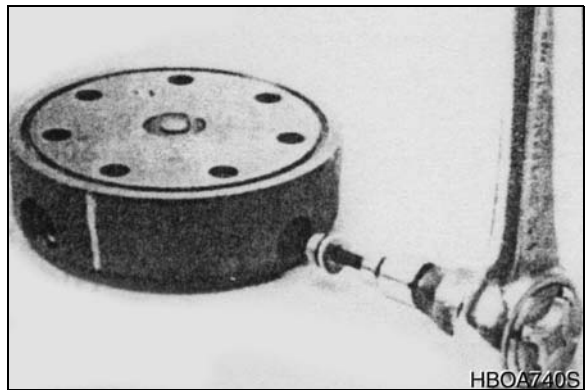

Figure 10
5. If the end cover (2) is equipped with shuttle valve or relief valve (24) components, remove the two previously loosened plugs (21) and O-rings (22). See Figure 10.